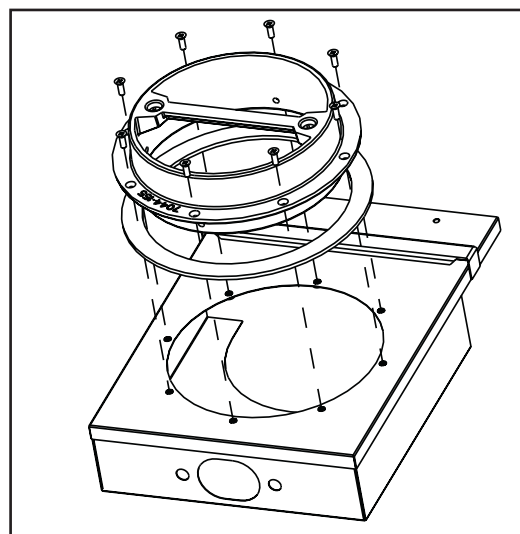

Figure 19.3
2. Slide the gasket over the flue collar and attach it to the offset adapter using the 8-32 flathead screws provided. **Figure 19.3**.